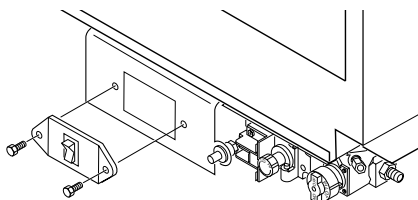

Figure 44 - Removing Switch Plate
2. Unscrew switch plate (see Figure 44).